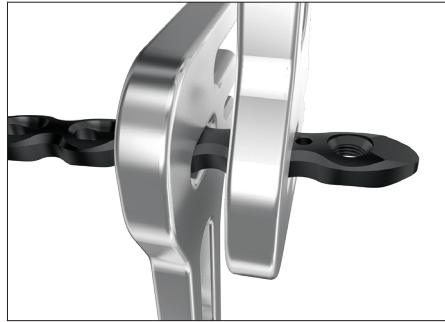

Fig. 13
Should bending of the plate be required, the bending irons type 1 and 2 (ref 705006 and ref 705007) or the table plate bender (ref 702900) should be used. The bending irons are designed to be used as a pair. The holes allow the iron to be slid over the shaft of the plate for ease of bending (fig. 13).